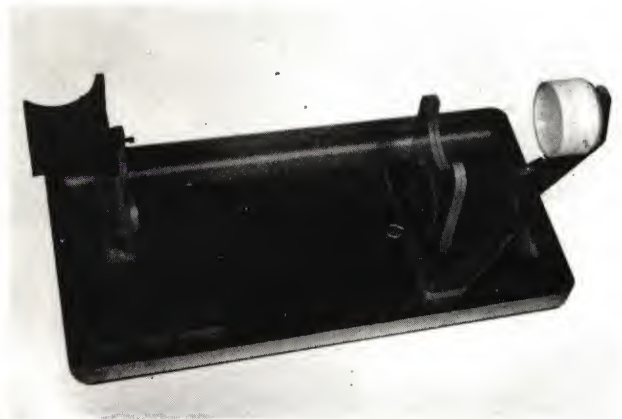

Figure 4-14. Collapsible Assembly Tray.
**4-3.6 COLLAPSIBLE ASSEMBLY TRAY.** The collapsible assembly tray, figure 4-14, is used for assembly of the TDD and S-A to the GCG, and for attaching fins to the GCG before testing on the Mk 401 test set. The assembly tray is assembled with the rear support in the appropriate position for the AIM-9C. The TDD tray can be placed on either side of the rear support. The TDD is placed in the TDD tray and the plugs are mated before the TDD is assembled to the GCG. It is possible to rotate the GCG through 360 degrees with four fins on the GCG. This assembly tray is not to be used for storage of components.